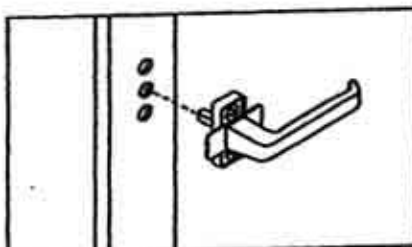

Figure 4-4. Handle in the Turn position
- 2.5 Turn position: rotate the SA-FE-Handle to the horizontal Turn position, with the handle pointing toward the hinge side of the sash. Install the SA-FE-Handle on the sash: insert the shaft into the center hole. See fig. 4-4.